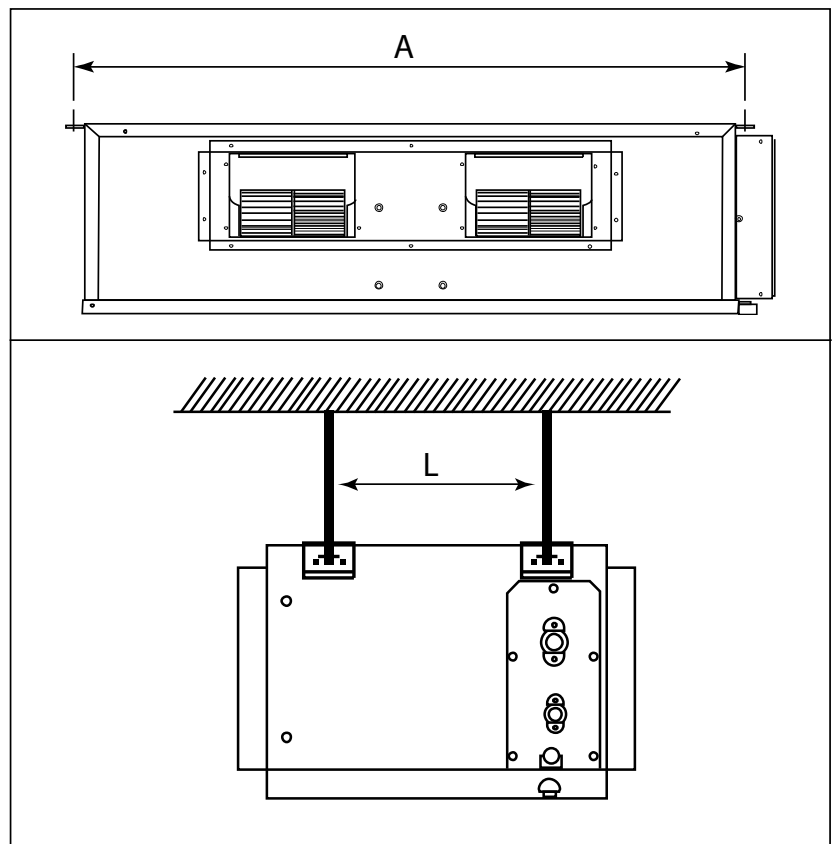

Figure 10
- Center distance of axle, see Figure 10.